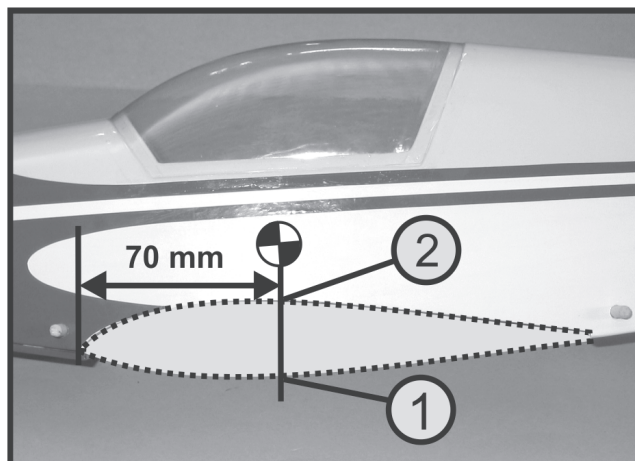

Figure 27
When the model is balanced in normal flight position, the centre of gravity must be marked at the bottom of the wing (see figure 27, item 1). When the model is balanced on its back, the centre of gravity must be marked at the top of the wing (see figure 27, item 2).